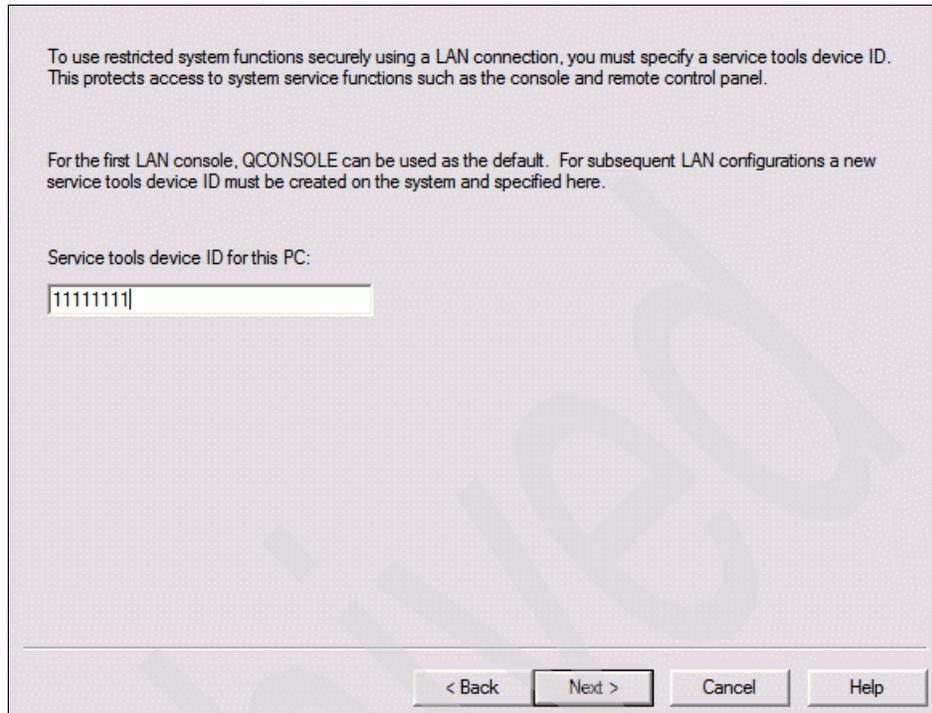

Figure 5-28 IBM System i Operations Console - enter Service tools device ID
8. The next window that appears requests a Service tool device ID to authenticate the communication between the LAN console PC and the IBM i partition, as shown in Figure 5-28 on page 244.